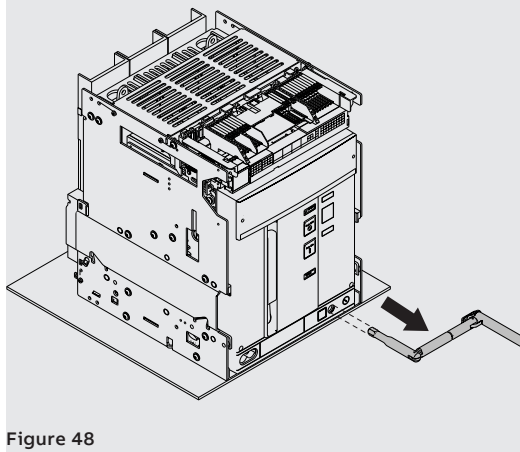

Figure 48
12. Extract the crank. See Figure 48.